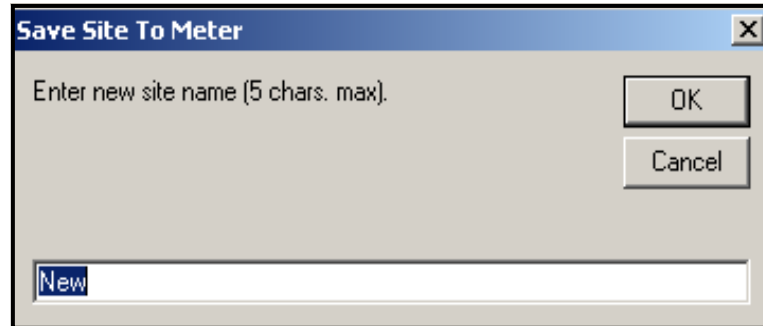

Figure 32: Site Name Entry Window
2. A window opens similar to *Figure 32* below. Enter the desired name, and click [OK].